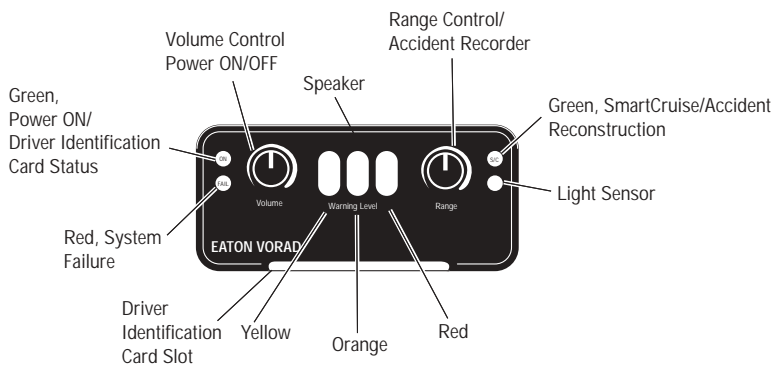

Figure 5
Green, Power On/Driver's Identification Card Status*	Illuminates after power is applied to the system and the power-on self test (described on page 16) is complete. The green "ON" light may blink continuously if the Driver's Identification Card is not installed, (the Driver ID Card is an optional feature) and card alarm might be enabled*. (See figure 5)
Volume Control* and Power On/Off	When pushed in until a distinctive click is heard and/or felt, this turns the power on or off* if enabled. Adjusts the volume of the Driver Display Unit speaker if enabled. Activates "Failure Display Mode" when the knob is pressed in and held for eight (8) seconds and then released. (See Figure 5)
Speaker	Located under the top cover of the Driver Display Unit. Sounds audible tones to alert the driver of a possible hazard. May be set to limit the volume to a minimum level*. (See Figure 5)
Range Control* and Accident Recorder*	When rotated from minimum to maximum*, and not in SmartCruise*, this control knob provides range adjustment of the first alert (3 to 2 seconds) and the second alert (2 to 1.75 seconds). Function may be configured to prevent range adjustment control* (See Figure 5). When SmartCruise is selected, rotation of the knob, from maximum to minimum, will change the following interval from 3.25 to 2.25 seconds. Accident Reconstruction is initiated by pushing and holding this knob for 5 seconds thereby freezing the most recent event data in half of the allocated memory. (See "In Case of an Accident" page 26) (See Figure 5)
Red, System Failure	Illuminates when a problem has been detected in the forward looking radar system. A pattern of flashes blink out the faults that are stored in memory when activated by holding in the volume control knob for five seconds (See "Diagnostic Features", page 27). (See Figure 5)
Green, SmartCruise*/Accident Reconstruction*	Comes on when SmartCruise is enabled and vehicle cruise control has been engaged. If Accident Reconstruction* has been initiated to store information, it will flash 8 times. After system power-up and power-on LED test is completed and if Accident Reconstruction information was previously stored, the display will flash 8 times. (See Figure 5)
Light Sensor	Photo sensor senses ambient lighting and adjusts intensity of the indicator lights accordingly, i.e., increases brightness of indicator lights in daytime and decreases brightness of indicator lights during nighttime. (See Figure 5)